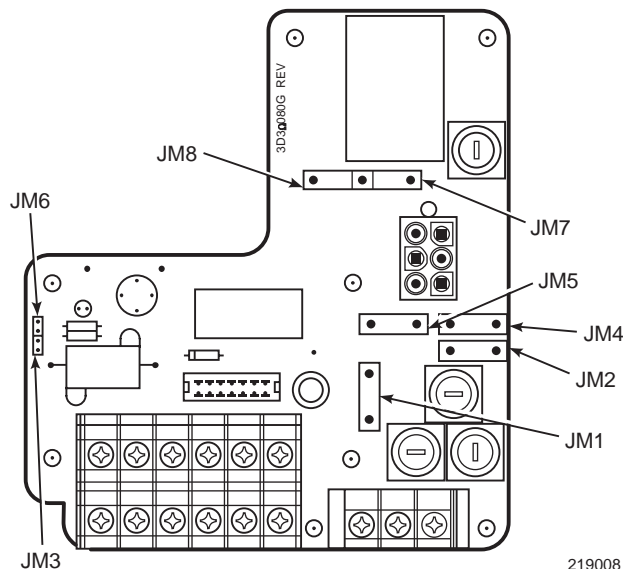

Figure 2-16. Jumpers on HPS Motherboard
Before supplying power to the heater power supply, verify that jumpers JM3 and JM6 are removed, and JM7 is installed. If relay wire (Figure 2-13, Note 1) is installed, JM2 must be removed from HPS Motherboard (Figure 2-16).
- Before supplying power to the heater power supply, verify that the jumpers on the motherboard, Figure 2-16, are properly configured. Jumpers JM3, JM6, should be removed and JM7 should be installed. Additionally, make sure that the proper jumper for your line voltage is installed, Figure 2-15. If relay wire (Figure 2-13, note 1) is not installed, JM2 should be installed on the HPS Motherboard (Figure 2-16).